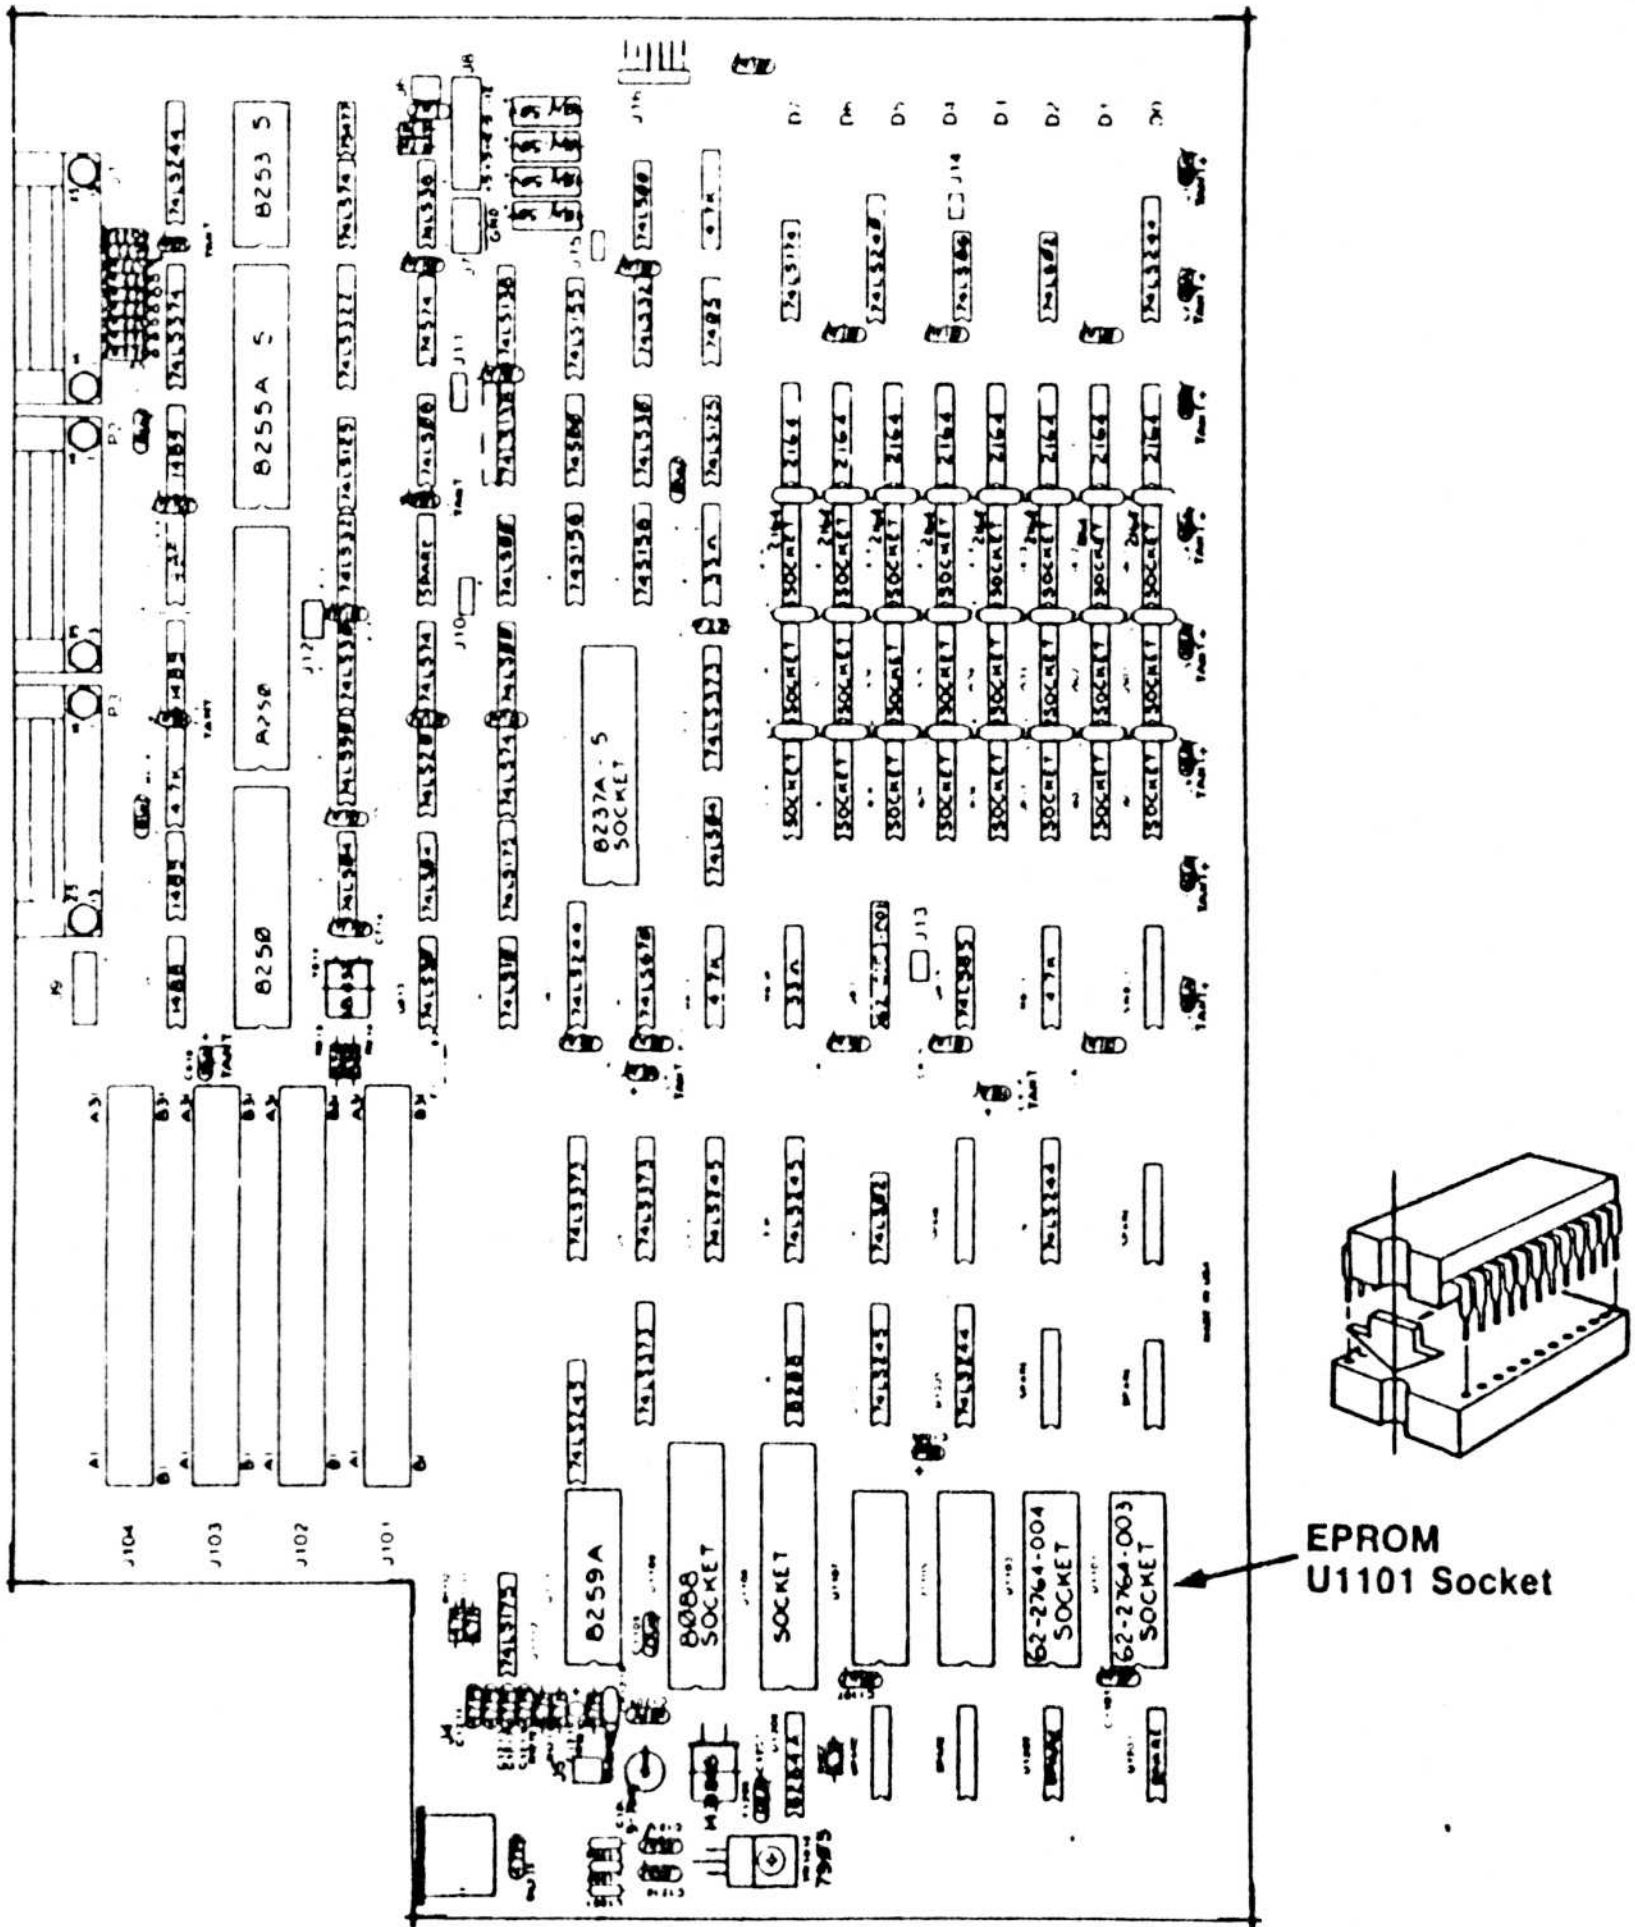

FIGURE 8: PC PLUS & PC SPIRIT MAIN BOARD
- STEP 12** Take out the existing EPROM in the large socket labeled U1101 and keep it in case your new EPROM does not function properly. *Do not touch any of the wires or devices on the board.* Refer to Figure 8.
- STEP 14** Insert the new EPROM into the large socket labeled U1101. Be sure the half circle notch on one end of the EPROM is directly over the half circle notch in the receiving socket. Make sure all the pins on the EPROM enter the holes in the socket. Gently push the EPROM until it snaps into place. *Do not touch any of the wires or devices on the board.* Refer to Figure 8.
- STEP 16 Take out the existing EPROM in the large socket labeled U1101 and keep it in case your new EPROM does not function properly. *Do not touch any of the wires or devices on the board.* Refer to Figure 8.
- STEP 18 Insert the new EPROM into the large socket labeled U1101. Be sure the half circle notch on one end of the EPROM is directly over the half circle notch in the receiving socket. Make sure all the pins on the EPROM enter the holes in the socket. Gently push the EPROM until it snaps into place. *Do not touch any of the wires or devices on the board.* Refer to Figure 8.